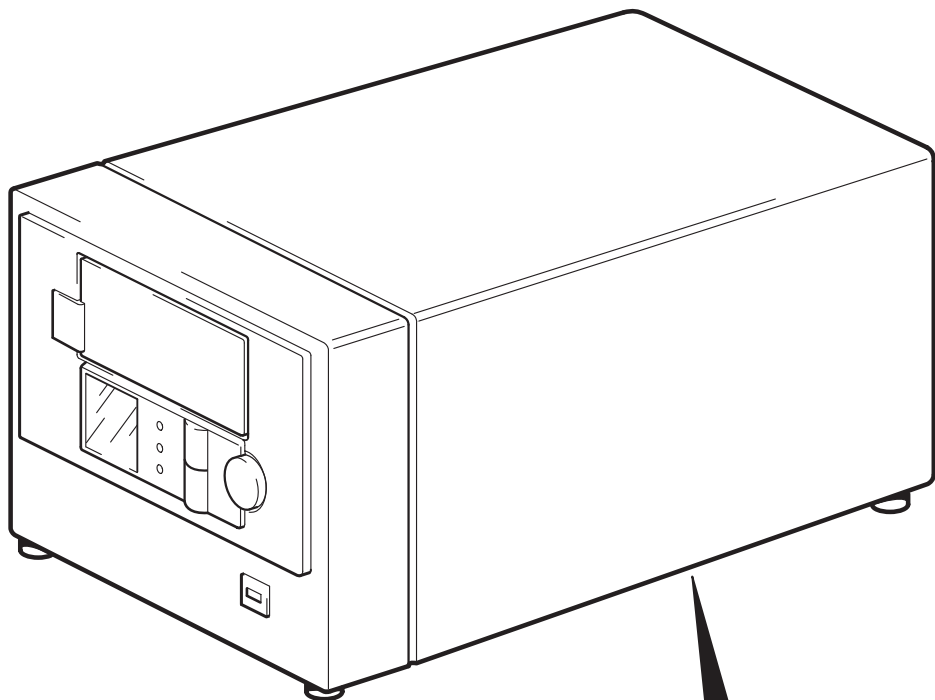

Figure 4: setting the UNIX configuration switches
- 2 If your UNIX configuration requires it, change the configuration switches located on the underside of the autoloader from the default settings shown in figure 4.